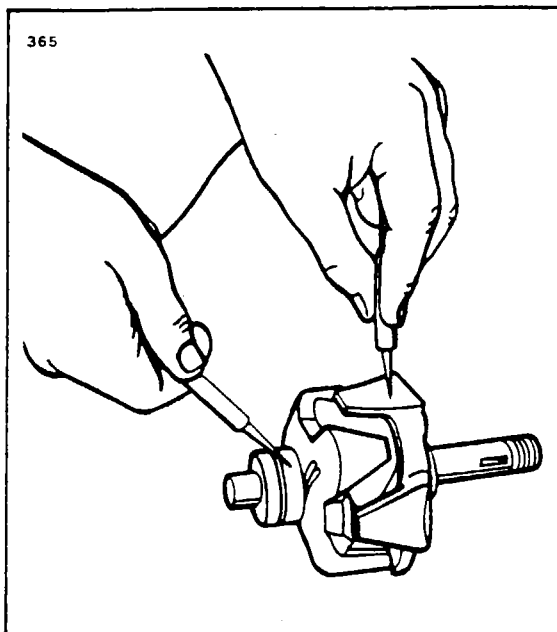
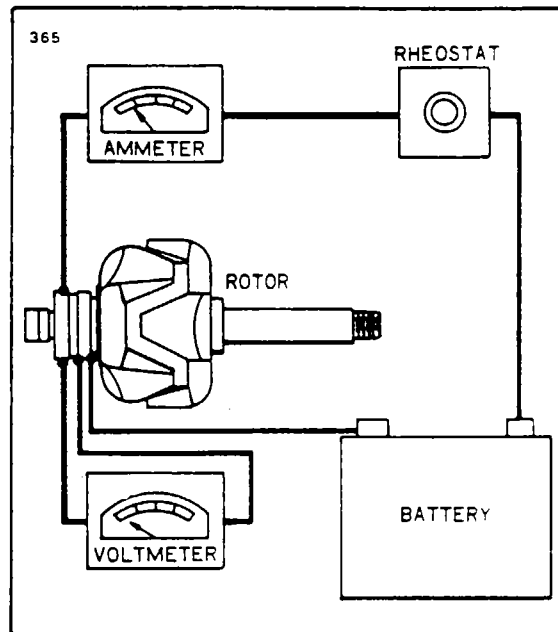

Figure 10-24f. Testing Rotor for Ground
Figure 10-24g. Testing Rotor for Shorts
a. Rotor: The rotor should be tested for grounded or shorted windings. The ground test can be made with test probes, connected in series with a 110 volt test lamp, an ohmmeter or any type of continuity tester. (Refer to Figure 10-24f.) There must not be any continuity between the slip rings and the rotor shaft or poles. To test for shorted turns in the rotor winding, connect a voltmeter, ammeter and rheostat as shown in Figure 10-24g, or use an ohmmeter. Rotor current draw and resistance are listed in 10-27k, Alternator Service Test Specifications. Excessive current draw or a low ohmmeter reading indicates shorted windings. No current draw or an infinite ohmmeter reading would indicate an open winding.